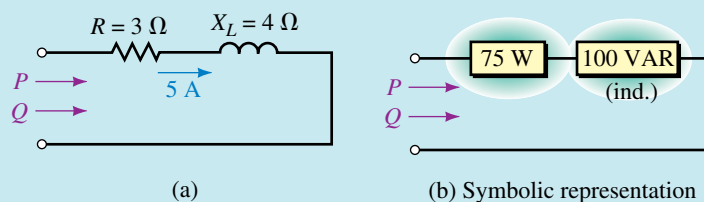

FIGURE 17-7 From the terminals, P and Q are the same for both (a) and (b).
EXAMPLE 17-2 For the RL circuit of Figure 17-7(a), $I = 5 \text{ A}$. Determine P and Q .
These can be represented symbolically as in Figure 17-7(b).
- c. The power triangle is sketched as Figure 17-7(b). Both the hypotenuse and the angle can be obtained easily using rectangular to polar conversion.